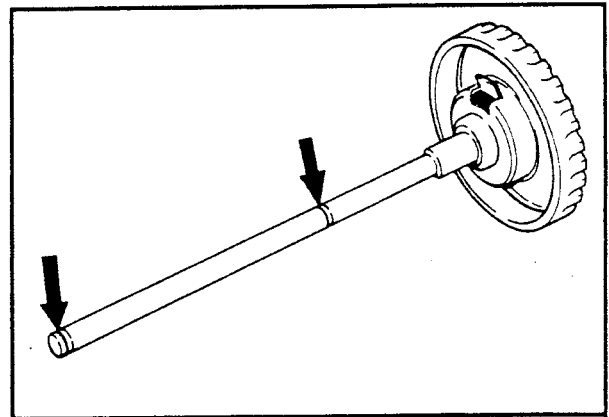

Figure 2-125. Engine Oil Dipstick
6. See Figure 2-125. Insert dipstick, remove and check to see that the level is between the upper and lower marks.